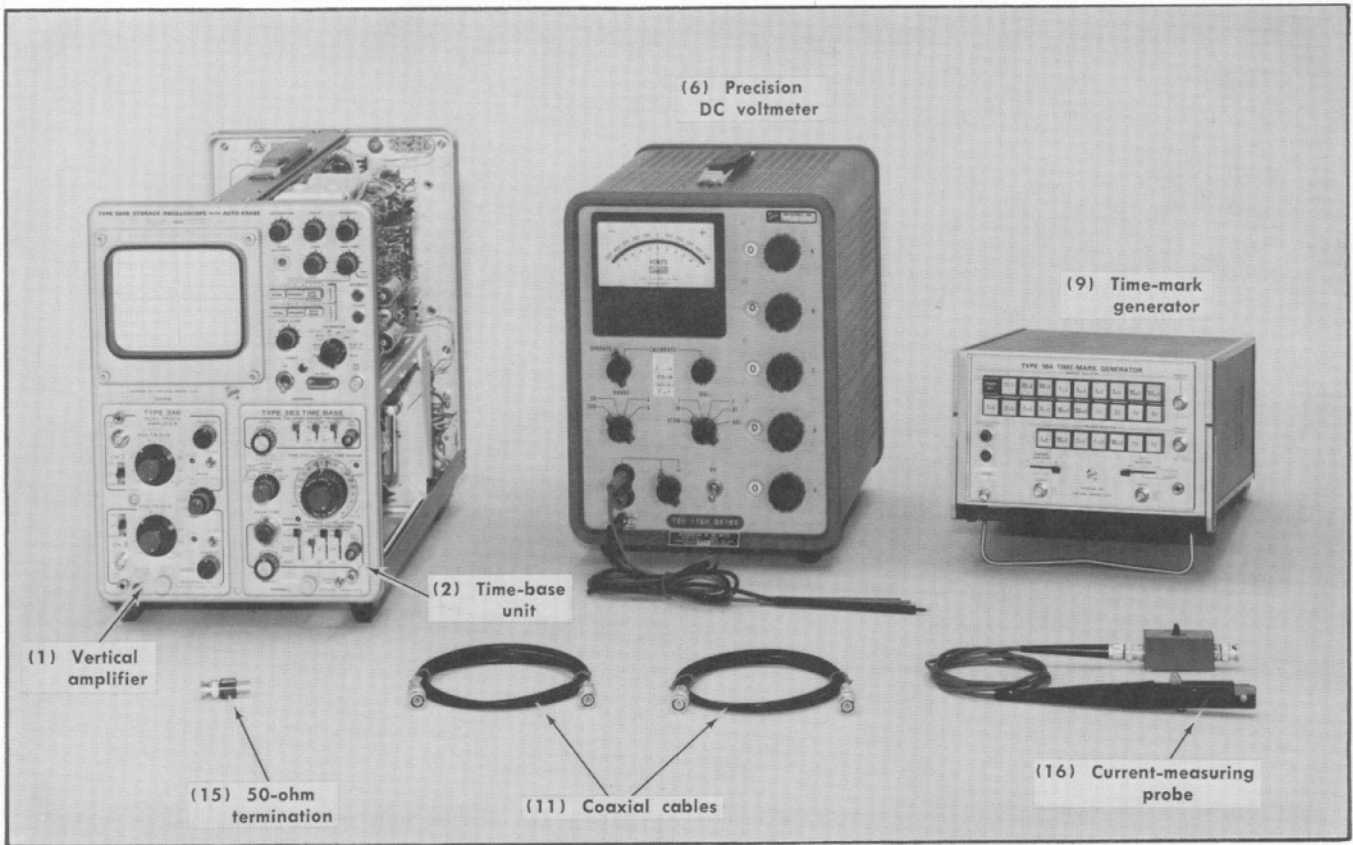

Fig. 5-15. Test equipment required for steps 18 through 22.
a. Test equipment required for steps 18 through 22 is shown in Fig. 5-15. The equipment illustrated is keyed to that listed under Test Equipment Required.